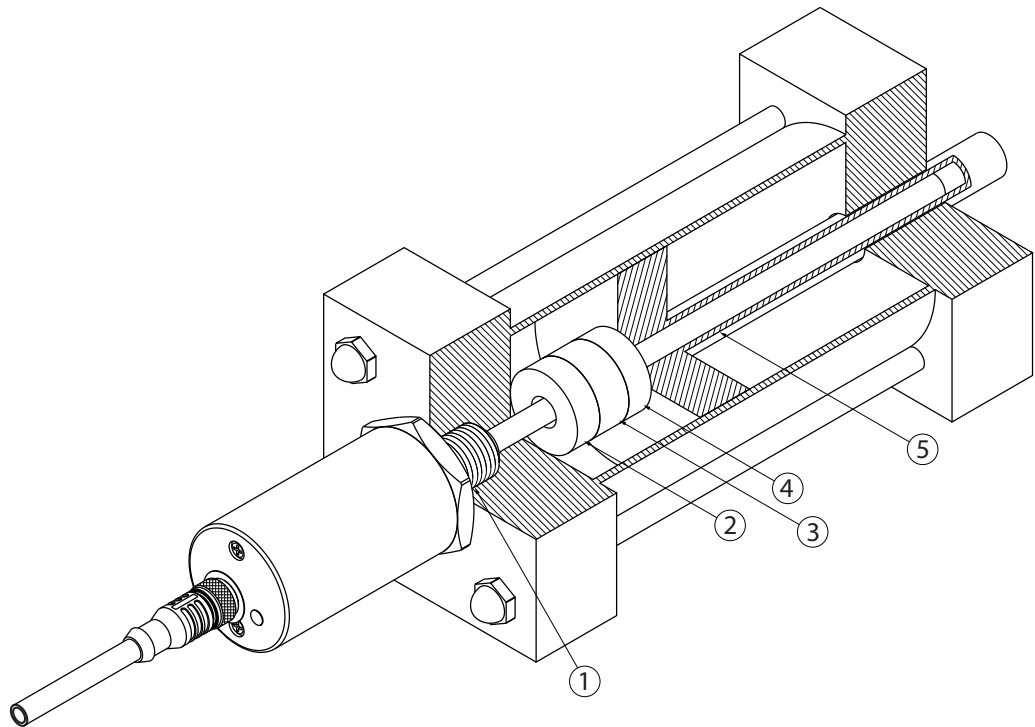

Fig. 8: Mounting the device in a hydraulic cylinder
- ▶ Recommendation for sensors with probe lengths of ≥ 1500 mm: use a protective ring, e.g. made of polymer (see fig. 8, no. 2). The protective ring prevents the mechanical wear of positioning elements by the pressure pipe with the piston fully extended.